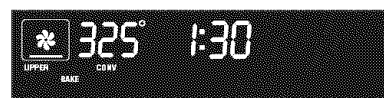
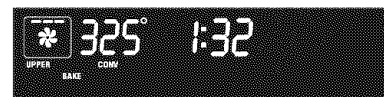
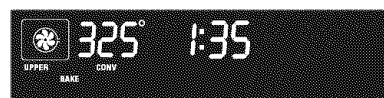

Figure 6
Figure 7
Figure 8
3. Press . "UPPER", "BAKE" and "CONV" will stop flashing and remain on, and the oven temperature **adjustment** will appear in the display (for this example it is 325°F). A beep will sound once the **adjusted** oven temperature is reached (Figure 6).
Note: The oven icon will show a rotating fan within the square with the bake (Figure 6), broil (Figure 7) and convection (Figure 8) elements cycling in the display.